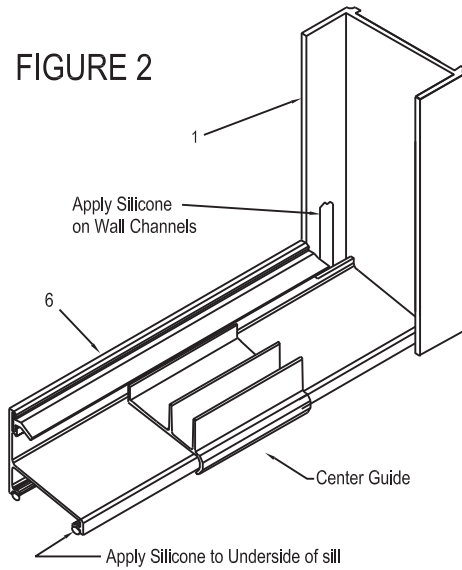

FIGURE 2
3. Cut Sill (6) to fit opening between jamb. Run a bead of silicone full length to the underside of sill (See Figure 2) and apply silicone to inside of jamb where jamb meets tub. On inside of jamb, run a 1/4" bead of silicone 1 1/4" up the outside leg of each wall jamb (See Figure 2). Set curb in place, then press firmly to rim of tub. Wipe off any excess silicone before curing. Use tape to hold in place until silicone sets.
6. Place center guide (7) to center position on sill (See Figure 2). Make sure the center guide is hooked into the slot position on the sill, then snap center guide to sill.
8. Set handle vinyl channel (14) in place over edges of outside glass panel (17) with bottom of vinyl in line with bottom of bumper. Tap towel bar brackets (9 & 10) in place. Bracket with pull should be to